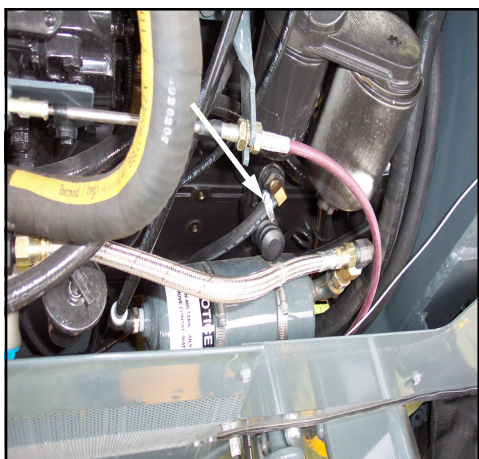

FIG 59-3
**PRIMING** - If the fuel system should happen to run dry and lose its prime, there is a priming bulb located on the left side of the engine for use in filling the engine fuel filters (fig. 59-3).